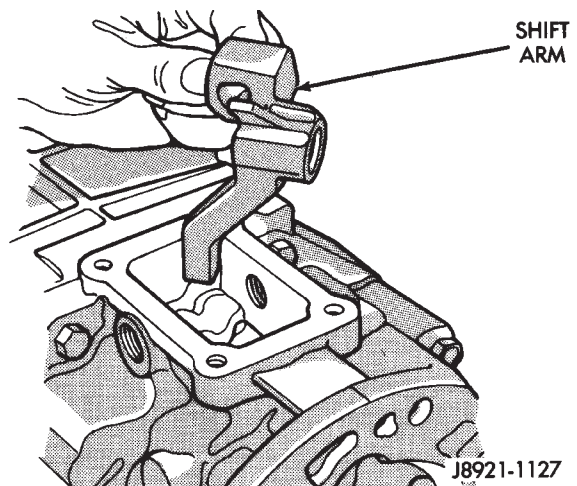
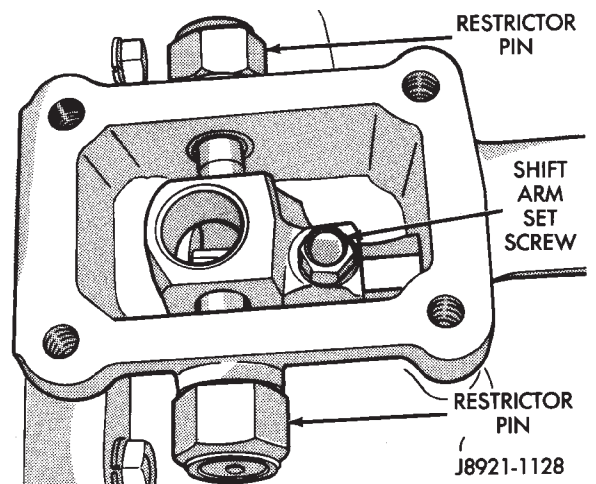

Fig. 124 Shift Arm Installation
Fig. 125 Set Screw And Restrictor Pin Installation
(22) Position shift arm in adapter housing (Fig. 124). Be sure arm is engaged in shift rails.
(23) Align shift arm with shaft and push shaft into arm.
(24) Rotate shift arm shaft until set screw holes in shaft and arm are aligned.
(25) Install and tighten shift arm set screw to 38 N·m (28 ft. lbs.) torque (Fig. 125).
(26) Install and tighten restrictor pins to 19 N·m (14 ft. lbs.) torque (Fig. 125).